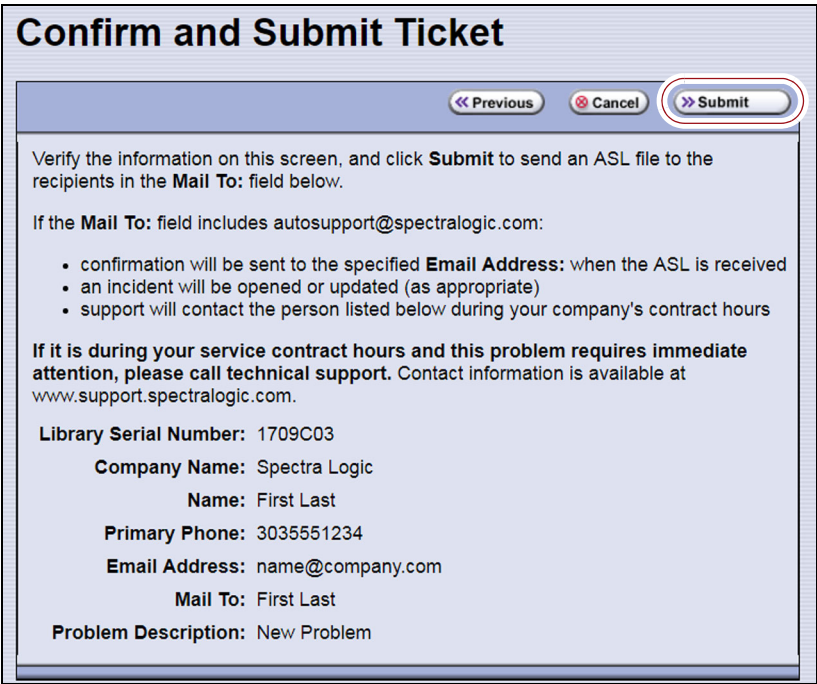

Figure 177 The Confirm and Submit Ticket screen.
The library is not connected to a network with an SMTP server,	Select the check box at the top of the screen (shown in Figure 177) to save the ticket information to a USB device instead of emailing it from the library. Notes: <ul style="list-style-type: none">▪ The option to save the ticket to a USB device is only available if you connected a USB device to the library before you clicked Send Log Set to begin the ticket process.▪ After saving the ticket information to the USB device, you can upload it to the Technical Support portal (see Accessing the Technical Support Portal on page 453).
8. Click **Next**. The Confirm and Submit Ticket screen displays (see Figure 177 on page 320).
10. To save the ticket information to a USB device *instead* of emailing from the library, select the check box at the top of the screen (shown in Figure 177 on page 320).